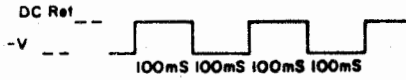

Figure 5.
- b. Connect oscilloscope probe between terminals R and B (dc return) and observe that oscilloscope waveform resembles that shown in Figure 5.